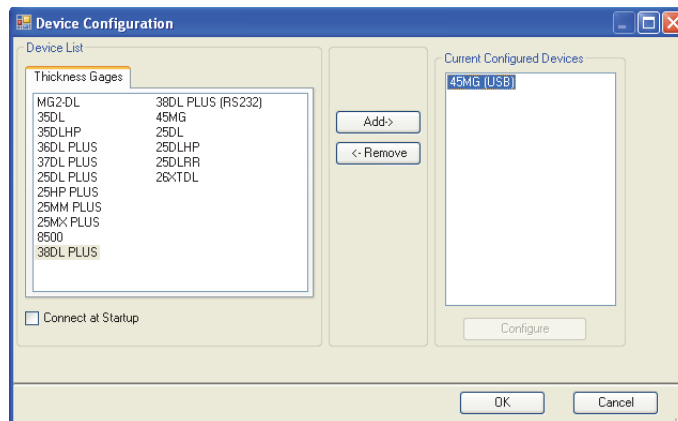

Figure 11-4 The Device Configuration dialog box
- b) In the **Device Configuration** dialog box (see Figure 11-4 on page 193):
- (1) In the **Device List**, select 45MG, and then click **Add**.